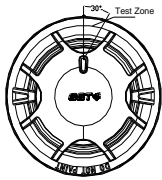

Fig.8
- Test zone is shown in Fig. 8. Put the magnet of commission tool close to that of the detector and hold on for a few seconds until the detector generates alarm.